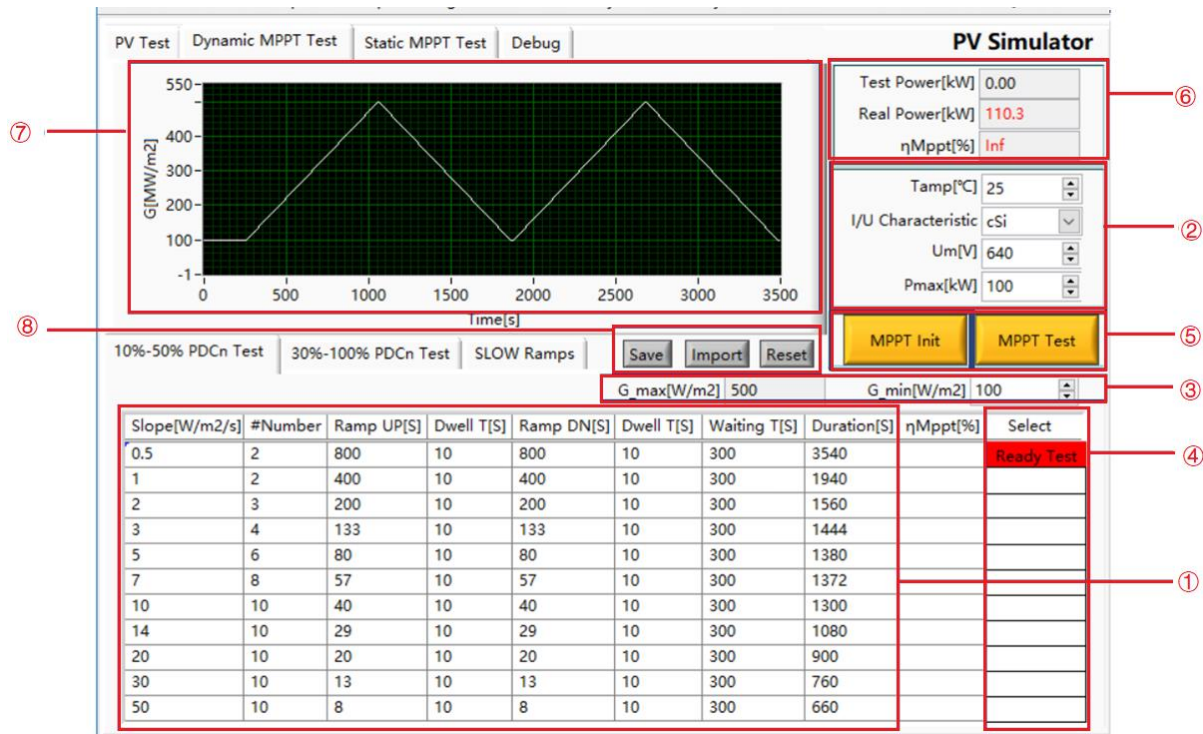

Figure 5-15 Dynamic MPPT test
Set the temperature (Tamp), I/U characteristics (crystalline silicon/thin film mode), Um, Pmax, initial irradiance and other parameters (Figure 5-15②③), click to switch the state of the test line to the ready state (Figure5-15④), Click "Initialize button" (MPPT Init) → "MPPT Test button" (MPPT Test) (Figure 5-15⑤), the software will automatically calculate and display the real-time parameters during the test (Figure5-15⑥), and generate a simulation curve in the waveform display area (Figure 5-15⑦). After starting the MPPT test, the remaining test time will be displayed according to the test progress, and the corresponding status will be displayed; after each line is executed, the dynamic maximum power point tracking efficiency  $\eta_{\text{Mppt}}$  will be calculated. After the test is completed or the test is stopped, the MPPT test parameters in the table return to the initial state.